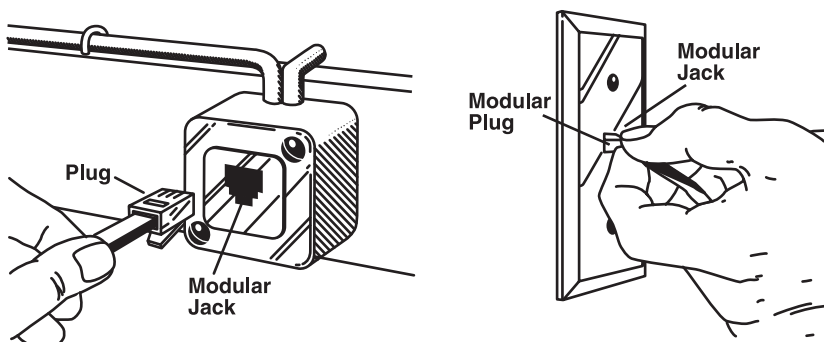

Figure 5-1. Typical wall-mounted and flush-mounted modular phone jacks.
- **Modular:** Most recently installed telephones are connected to the inside wire via a modular system, which, for desk-type phones (Figure 5-1), consists of a miniature plug at the end of the telephone cord and a matching jack on the wall or baseboard.